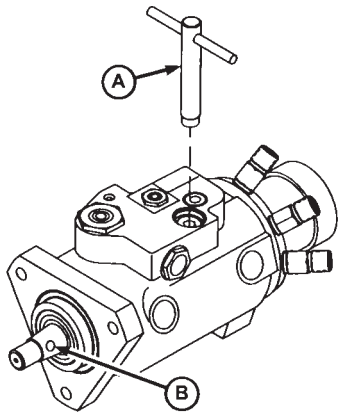

Figure 22 Reproduced by permission of Deere & Company, c.2004. Deere & Company. All reserved.
- Place an injection pump timing pin, JDG1559 (Fig. 22 A) into the pump timing pin bore before installing the injection pump. Insert a small punch or screw driver into the hole on the pump drive shaft (B) until the timing pin drops into the recess in the injection pump shaft.